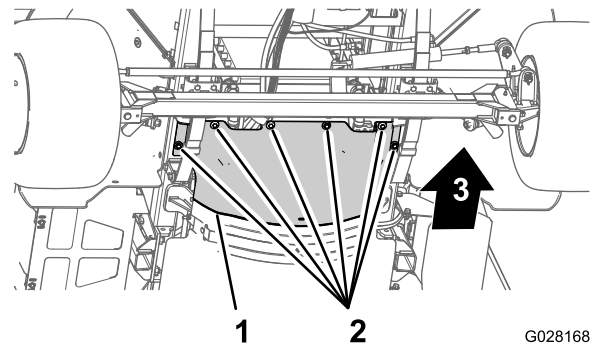

Figure 57
3. Remove the 6 hex-head bolts and 6 washers that secure the front, forward heat shield to the chassis and remove the shield (Figure 57).